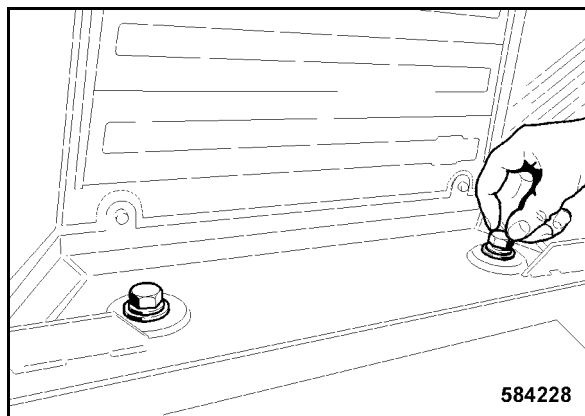

Fig. 212
- Loosen both fastening screws (Fig. 212) at the rear of the cabin again.
- Tighten both fastening screws (Fig. 212) at the rear of the cabin with 578 Nm.